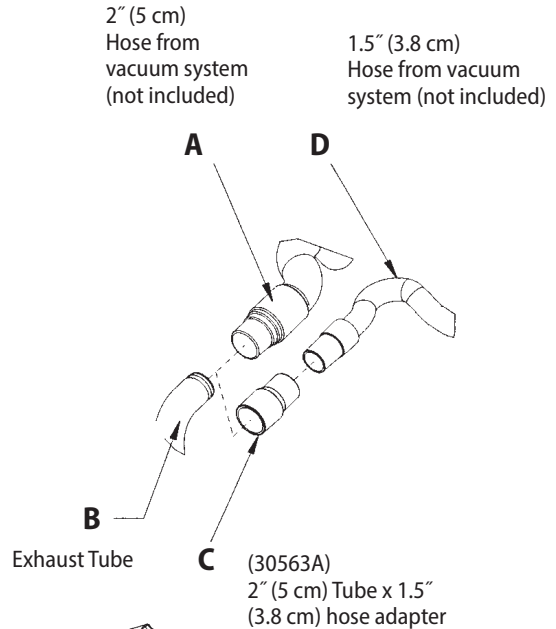

Figure 9
- 1 Install 2" (5 cm) hose end (Figure 9, A) directly over the exhaust tube (Figure 9, B).
- 1 Install the 2" (5 cm) x 1 1/2" (3.8 cm) hose end adapter (Part No. 30563A) (Figure 9, C) over the exhaust tube (Figure 9, B).
- 2 Insert 1 1/2" (3.8 cm) hose end (Figure 9, D) into the adapter (Figure 9, C).